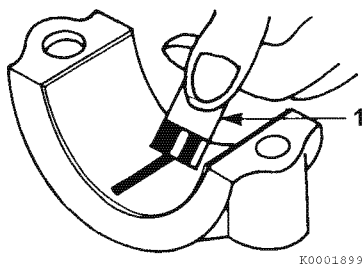

Figure 6-62
- 5- Compare the width of the flattened PLASTIGAGE to the graduation marks on the package (**Figure 6-62, (1)**). The mark that most closely matches the width of the flattened PLASTIGAGE will indicate the bearing oil clearance.